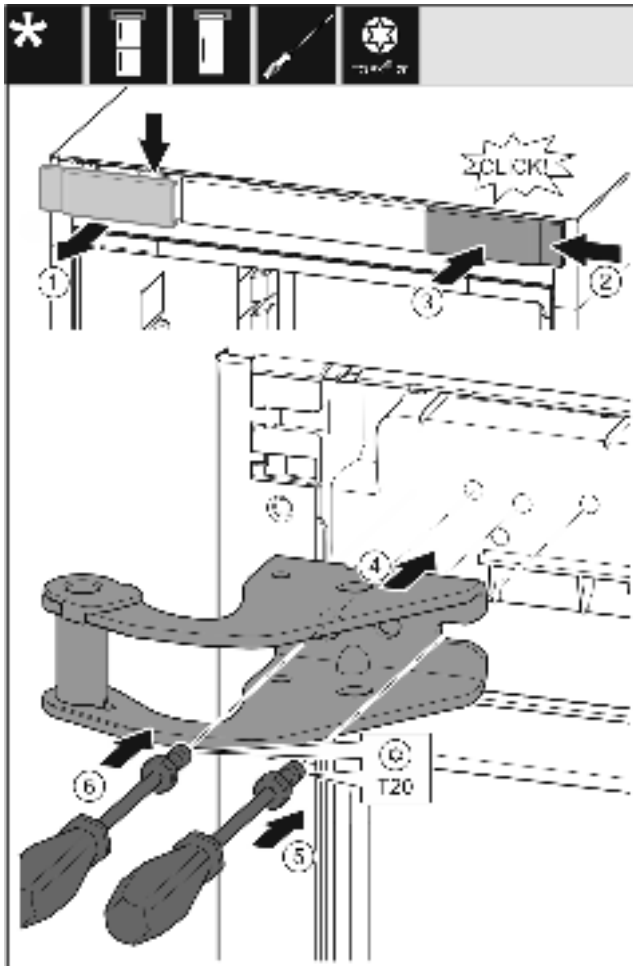

Fig. 12
- Take off the cover to the front from above. Fig. 12 (1)
- Rotate the cover 180° and clip onto the other side from the right. Fig. 12 (2)
- Latch the cover into place. Fig. 12 (3)
- Position the upper bearing bracket. Fig. 12 (4)
- Insert the screw with a T20 screwdriver and tighten it. Fig. 12 (5)
- Insert the screw with a T20 screwdriver and tighten it. Fig. 12 (6)